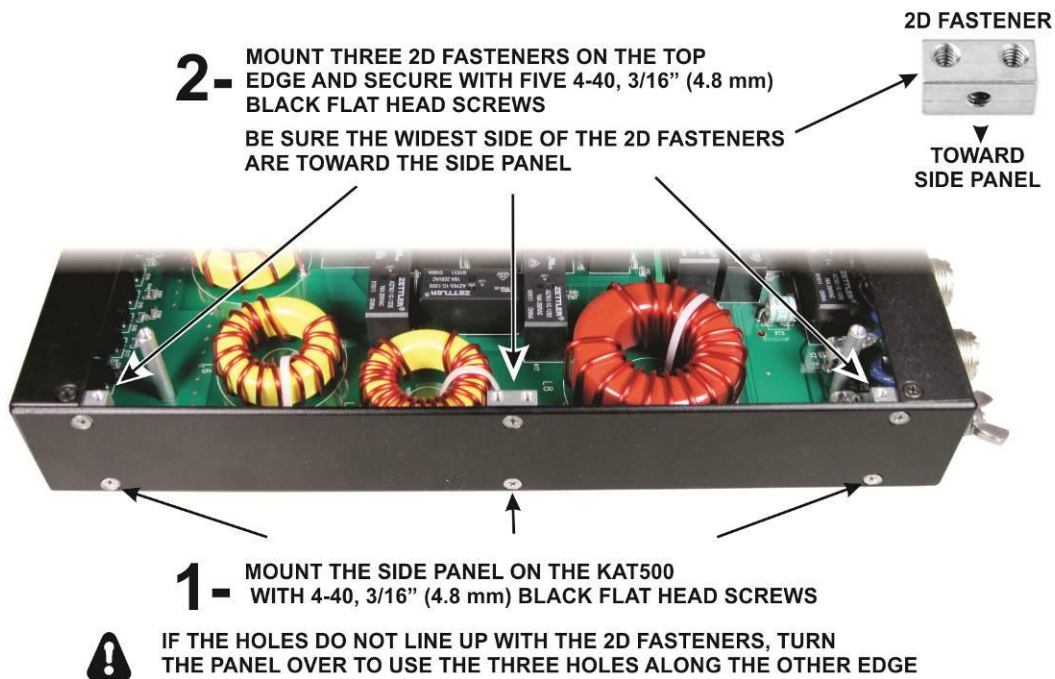

Figure 34. Installing the Side Panels.
- Place a side panel on the KAT500, lining up the three holes along the bottom with the 2D fasteners between the pc board and the bottom cover. Be sure all three holes line up. If they do not line up, turn the side panel over to line up the other three holes. Attach the side panel with three screws as shown in Figure 34 (1).
- Mount three 2D fasteners along the top edge of the side pane as shown in Figure 34 (2). Be sure the widest side is toward the side panel as shown. You may need to loosen the screws along the bottom edge to allow the panel to move to properly align the holes.